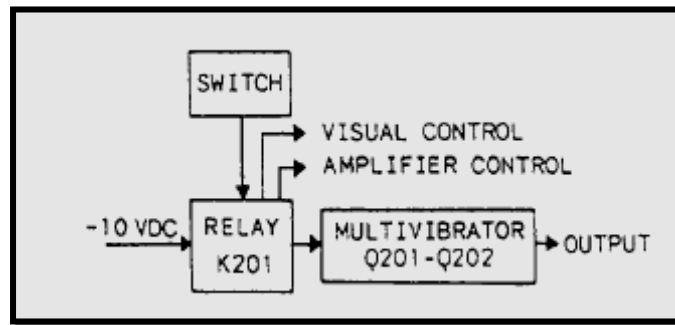

Figure 7-13.— Block diagram of the chemical alarm module.
**CHEMICAL ALARM.**— The chemical alarm is a transistorized oscillator circuit that generates a continuous 1000-Hz signal as long as power is applied to the circuit. This circuit consists of a square wave multi vibrator. Figure 7-13 is a block diagram of a chemical alarm module. Operation of the chemical alarm contact maker will supply -10 volts dc to the circuit through relay K201. Relay K201 will also apply control voltage to operate the visual signal circuit and the amplifier channel.